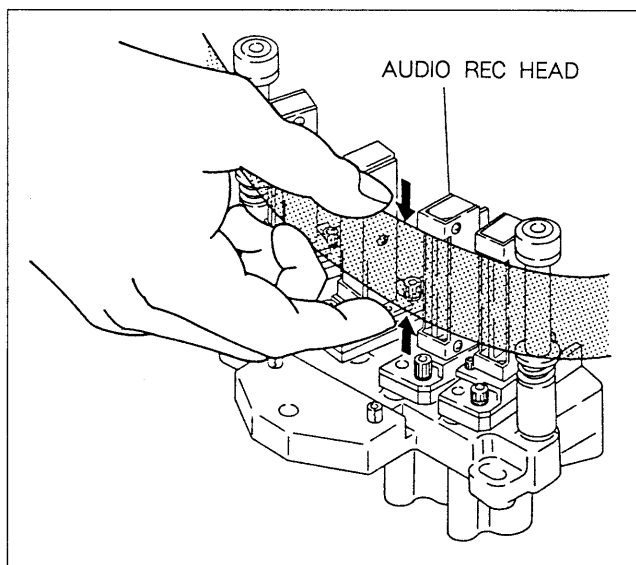

Fig. 9-7-4. Audio REC Head Height Check
- (2) Set the time base of oscilloscope to 500 μ secs.
- (3) Push up or down the tape against the REC head during playback as shown in Fig. 9-7-4. Check that the CH-1 (DA. CH-1) output is decreasing from the maximum level when the tape has been pushed both upward and downward.